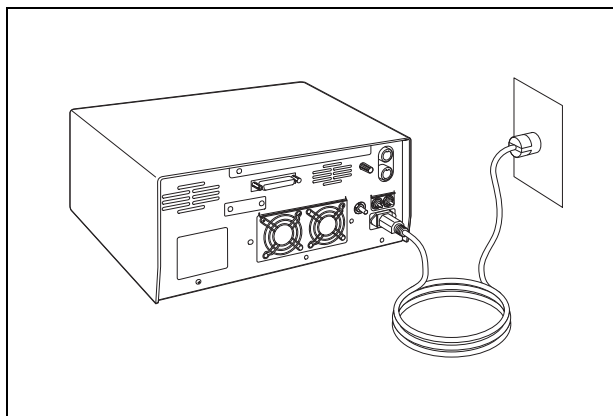

Figure 3.1
3. Connect the power cord plug directly to a hospital grade receptacle (wall mains outlet) which meets the power requirements indicated on the electrical rating plate on the rear panel of the UES-40 (see Figure 3.1).